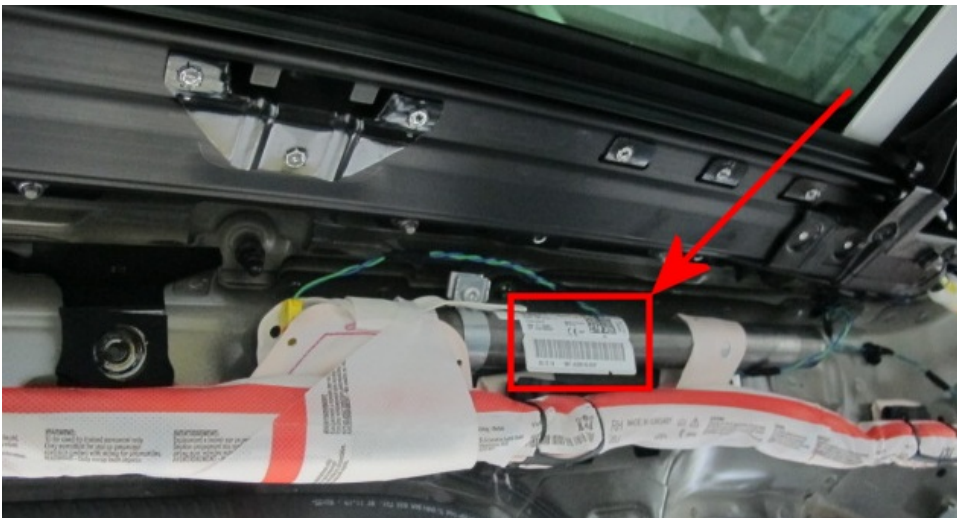

Figure 1
- 3) Referring to Figure 1 - Locate the curtain airbag inflator identification plate